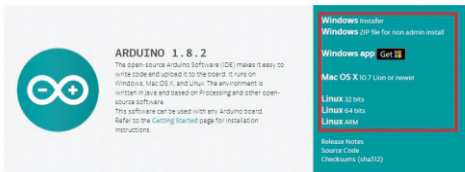

Figure 1 Arduino IDE Download Page
Step 1: Go to the Arduino download page: <https://www.arduino.cc/en/Main/Software> shown in Figure 1.